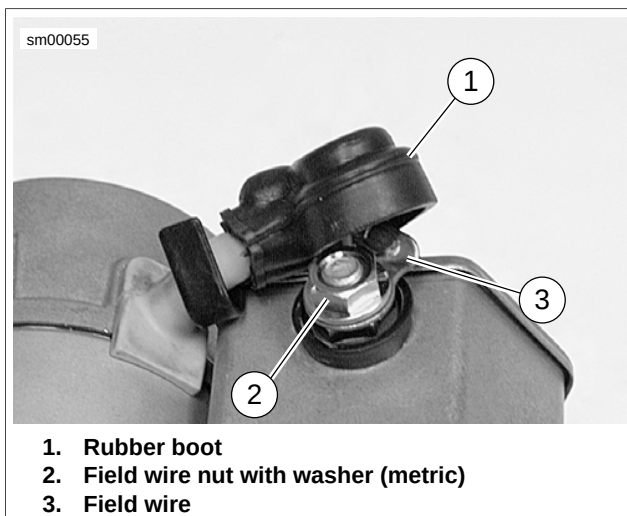

Figure 5-3. Starter Field Wire
1. See Figure 5-3. Lift rubber boot (1). Remove field wire nut with washer (2) (metric) to detach field wire (3).